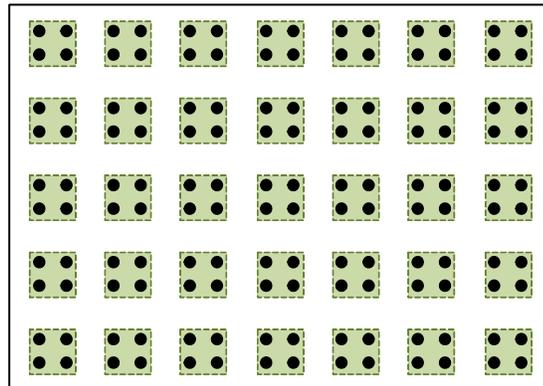

Figure 1: Quad Board
- Locate the Quad Board (Figure 1). The Quad Board will be used to construct circuits throughout the semester. Each of the 4 jacks on each “quad” are the same point electrically. There are 5 rows and 7 columns of the connections. You will use the connections to plug in circuit elements, the voltage source, the DMM and other devices in later practical exercises.